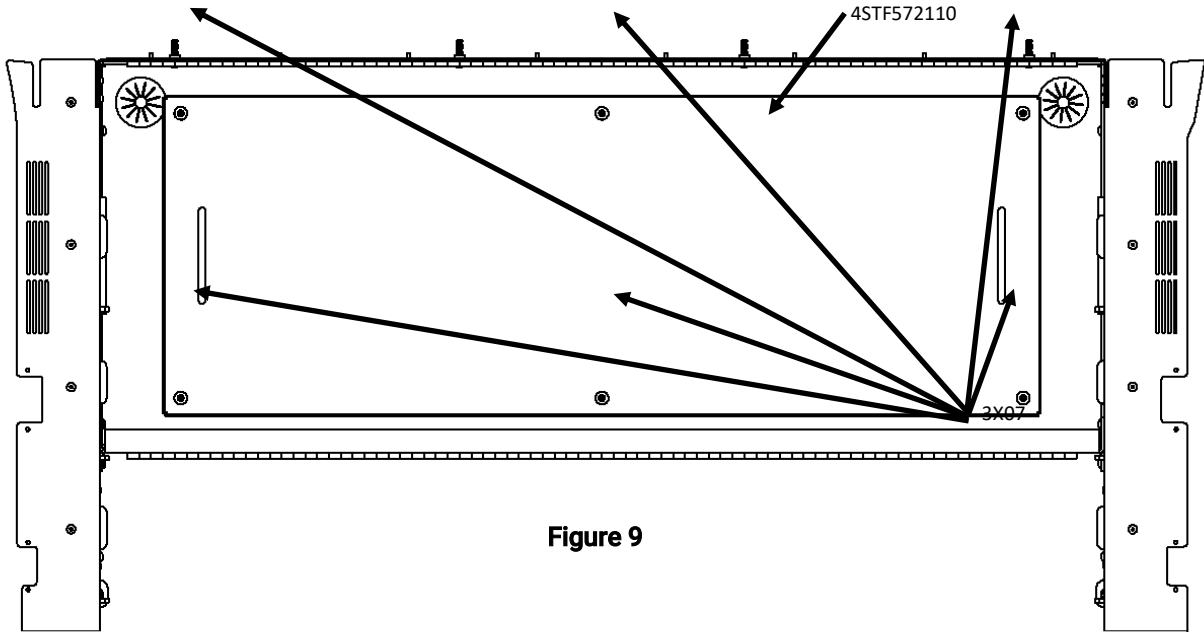

Figure 9
1. Locate the Electronics Tray [4STF572110] and (6) [3X07] 1/4-20 Philips Head Truss Screws.
2. Mount Electronics Tray on top of Electronics floor using Philips Head Screwdriver as shown in Figure 9.